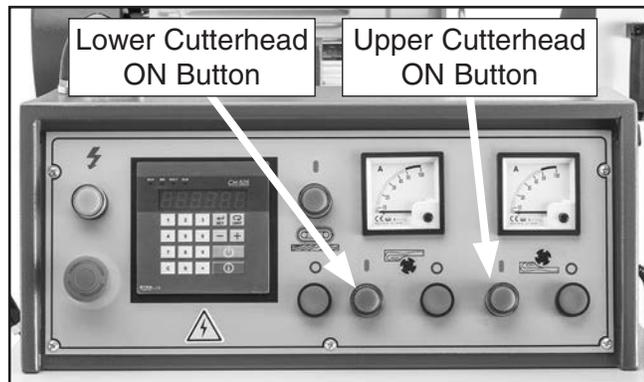

Figure 30. Location of lower and upper cutterhead ON buttons.
9. Push lower cutterhead ON button (see **Figure 30**) to turn lower cutterhead **ON**. Wait 5–15 seconds for cutterhead to reach full speed. A correctly operating cutterhead motor will run smoothly with little or no vibration or rubbing noises.
10. Push upper cutterhead ON button (see **Figure 30**) to turn upper cutterhead **ON**. Wait 5–15 seconds for cutterhead to reach full speed. A correctly operating cutterhead motor will run smoothly with little or no vibration or rubbing noises.